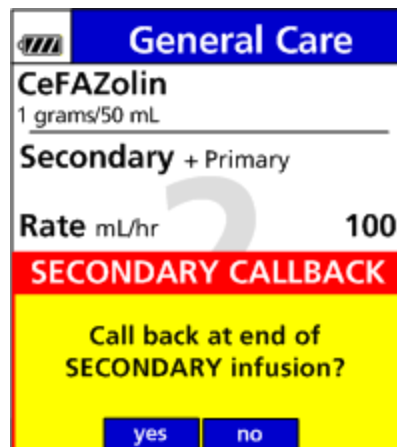

Figure 48. Secondary Callback Dialog Box.
1. If Secondary Callback is enabled as optional (per drug in the Drug Library) a dialog box shall be displayed at the completion of programming a secondary infusion that asks if the clinician would like to be called back at the completion of the secondary infusion. (See Figure 48.)